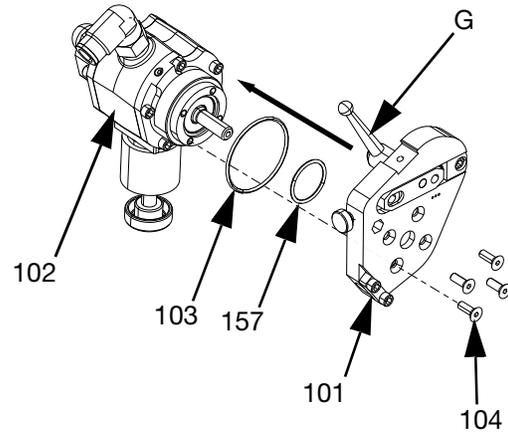

FIG. 23
Refer to FIG. 23 for the following steps.
NOTE: The anvil to blade tension lockdown handle (G) must be aligned with the groove in the air motor as shown in FIG. 23.